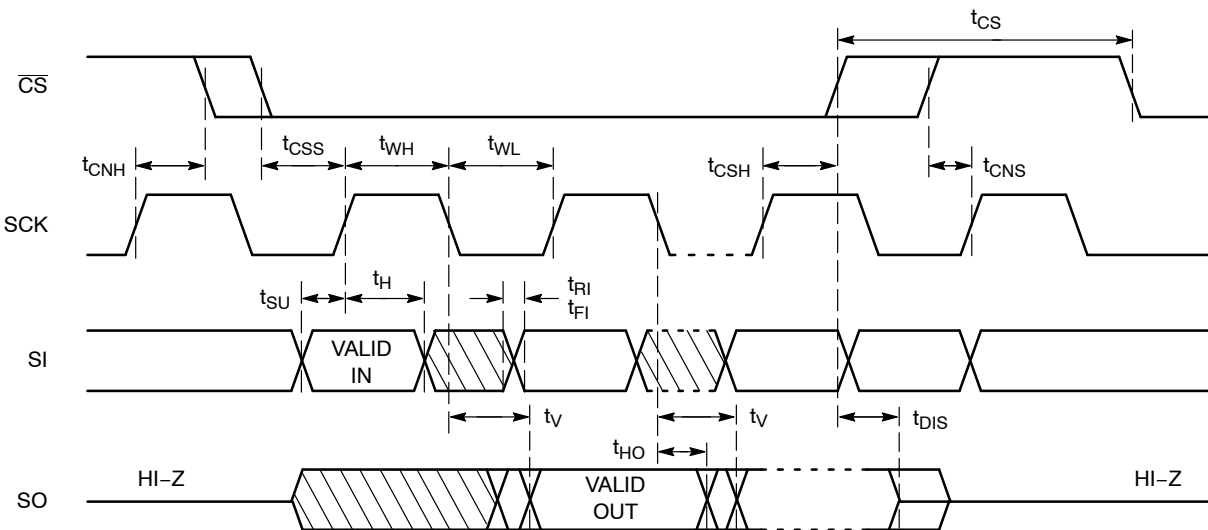

Figure 2. Synchronous Data Timing
7. **All Chip Select (CS) timing parameters are defined relative to the positive clock edge (Figure 2). t_{CSH} timing specification is valid for die revision D and higher. The die revision D is identified by letter "D" or a dedicated marking code on top of the package. For previous product revision (Rev.C) the t_{CSH} is defined relative to the negative clock edge (please refer to data sheet Doc. No. MD-1130 Rev.B).**
After a high to low transition on the $\overline{\text{CS}}$ input pin, the CAT25128 will accept any one of the six instruction op-codes listed in Table 7 and will ignore all other possible 8-bit combinations. The communication protocol follows the timing from Figure 2.